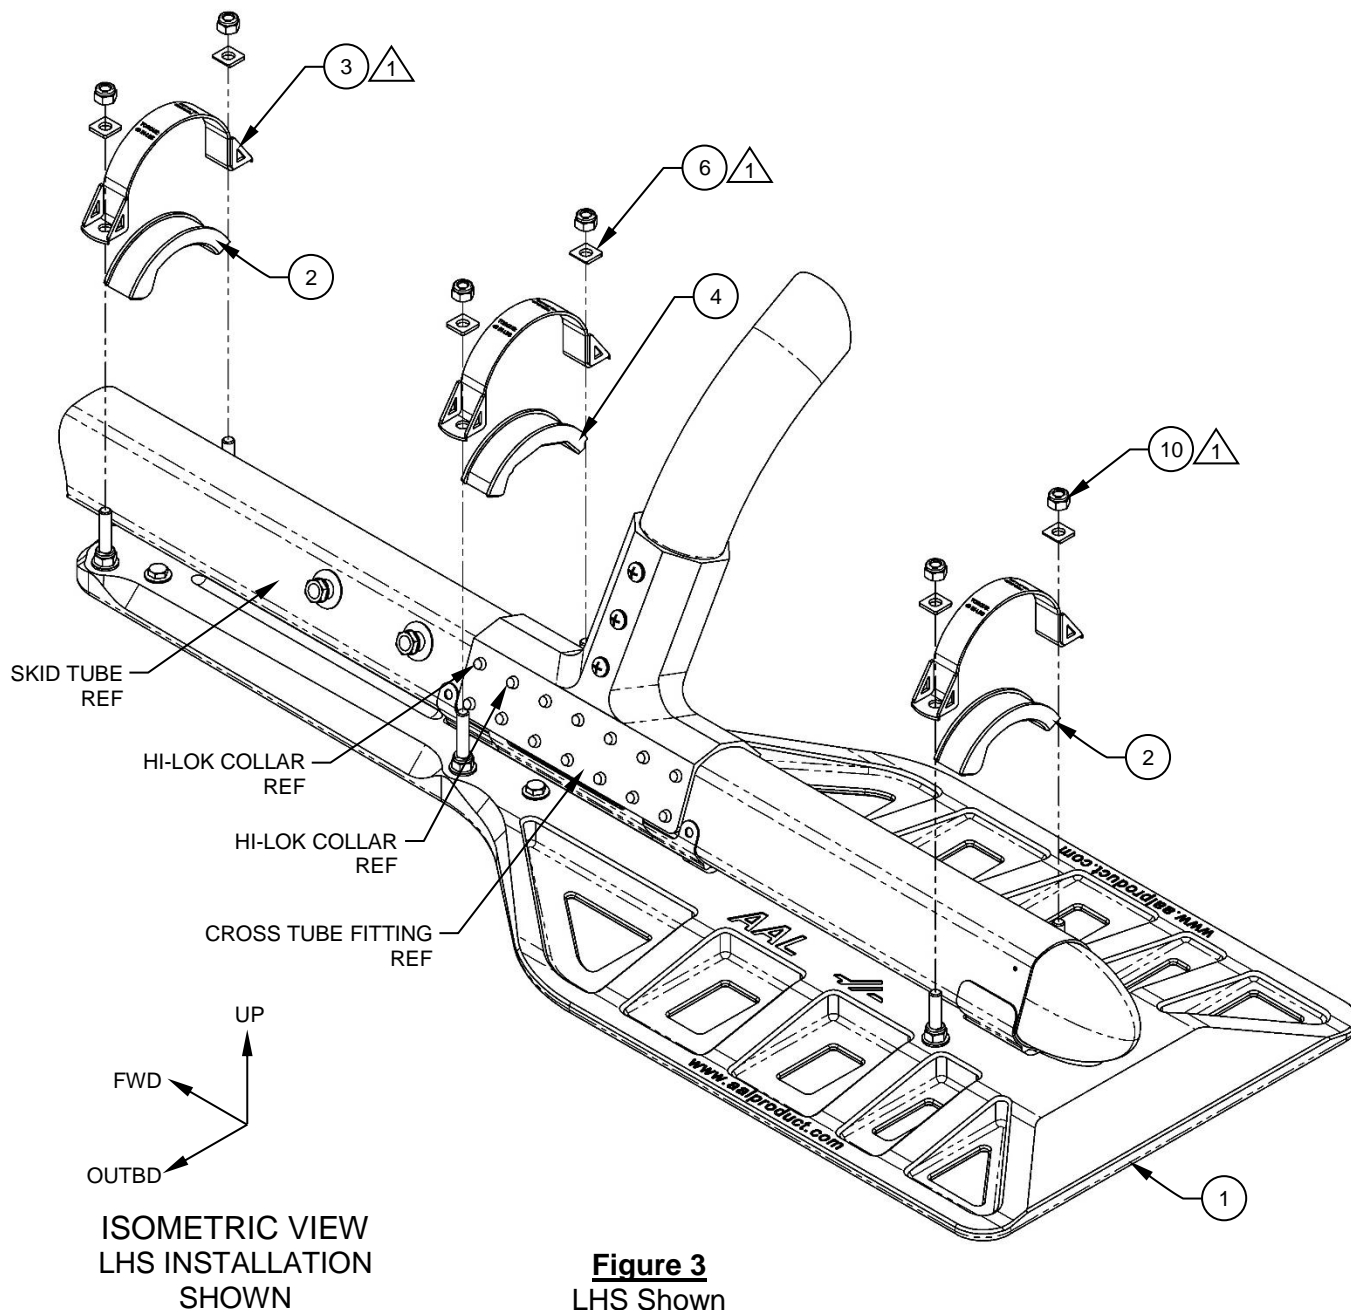

Figure 3
3. Raise the aircraft so the Bear Paw, Detail (Item 1) can be slide under the skid tube. Reference Figure 3.
4. Once the Bear Paw, Detail (Item 1) is under the skid tube in its approximate location, place the Strap, Assys (Item 3) and their respective Cap, Details (Items 2 & 4) on their corresponding bolts. Reference Figure 3.
5. Install the supplied Washer (Item 6) and Nut (Item 10) on each bolt. Reference Figure 3.
6. Lower the aircraft onto the Bear Paw, Details (Item 1) and torque the fasteners equally to 40 in/lbs. Reference Figure 3.